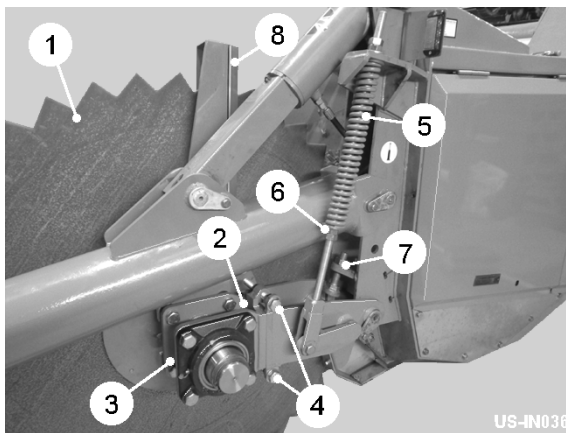

Fig 8
The discs (item 1, fig 8) cut and contain the soil while feeding it over the shares onto the stars. The disc width setting is adjusted by loosening the two mounting bolts (item 2, fig 8) and repositioning the disc mounting (item 3, fig 8) using the adjuster screws (item 4, fig 8). The pressure setting of the discs is set on the springs (item 5, fig 8). The spring pressure should be sufficient to keep the disc turning in the soil while at the same time allow it to rise up over any obstructions. Spring pressure is increased/decreased by raising/lowering the bottom spring rod locknuts (item 6, fig 8). Maximum disc height is limited by the depth stop (item 7, fig 8).
As the disc scrapers (item 8, fig 8) wear, they should be adjusted closer to the disc. Position the scrapers until just clear of the disc surface and retighten.